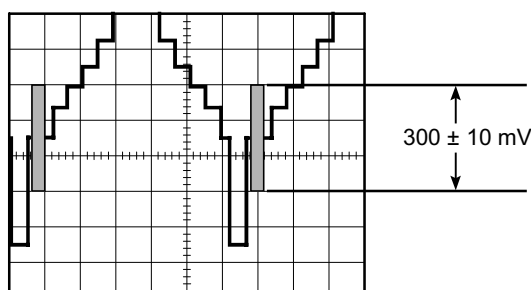
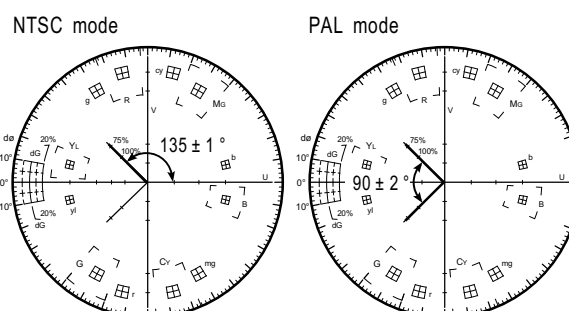

Fig. 4-21
Fig. 4-22
- Adjust data with the **ARROW** keys so that the Burst signal level becomes 300 ± 10 mV as shown in Fig. 4-21.
- Adjust data with the **ARROW** keys so that the Burst Phase becomes $135 \pm 1^\circ$ as shown in Fig. 4-22.
- Adjust data with the **ARROW** keys so that the Burst Phase becomes $90 \pm 2^\circ$ as shown in Fig. 4-22.
- Repeat adjust from (23).7.1.(A).1. to (24).7.1.(A).2. until both Burst Phase and Gain are adjusted to proper position as shown in Fig. 4-21 and Fig 4-22.